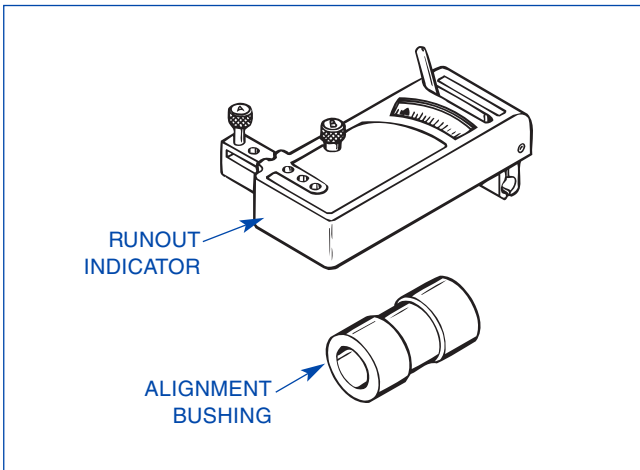

FIGURE 2-12, Runout Indicator
10. RUNOUT INDICATOR (see Figure 2-12) attaches to Stroker Drive Shaft and is used in conjunction with an Alignment Bushing to indicate conical or parallel runout in a Tool.